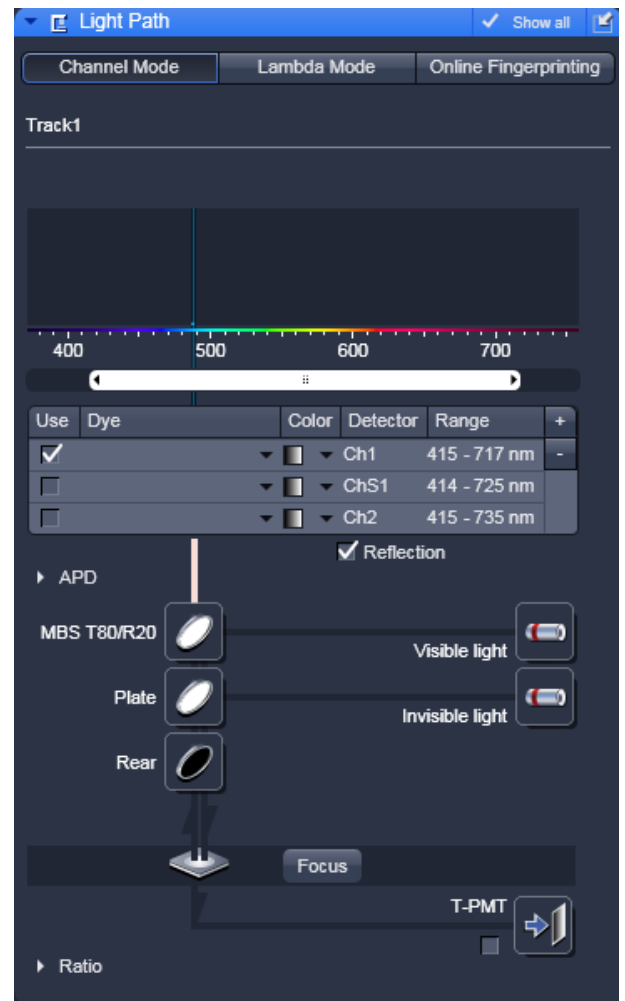

Fig. 14 Beam path configuration for finding glass reflection
- Set up a beam path in the LSM **Light Path** tool (Fig. 14).